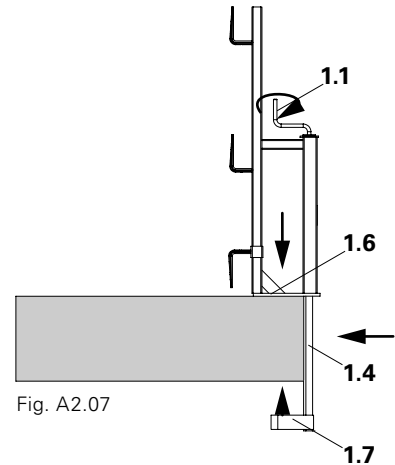

Fig. A2.07
- Clamping tube (1.4) retracts. (Fig. A2.07)